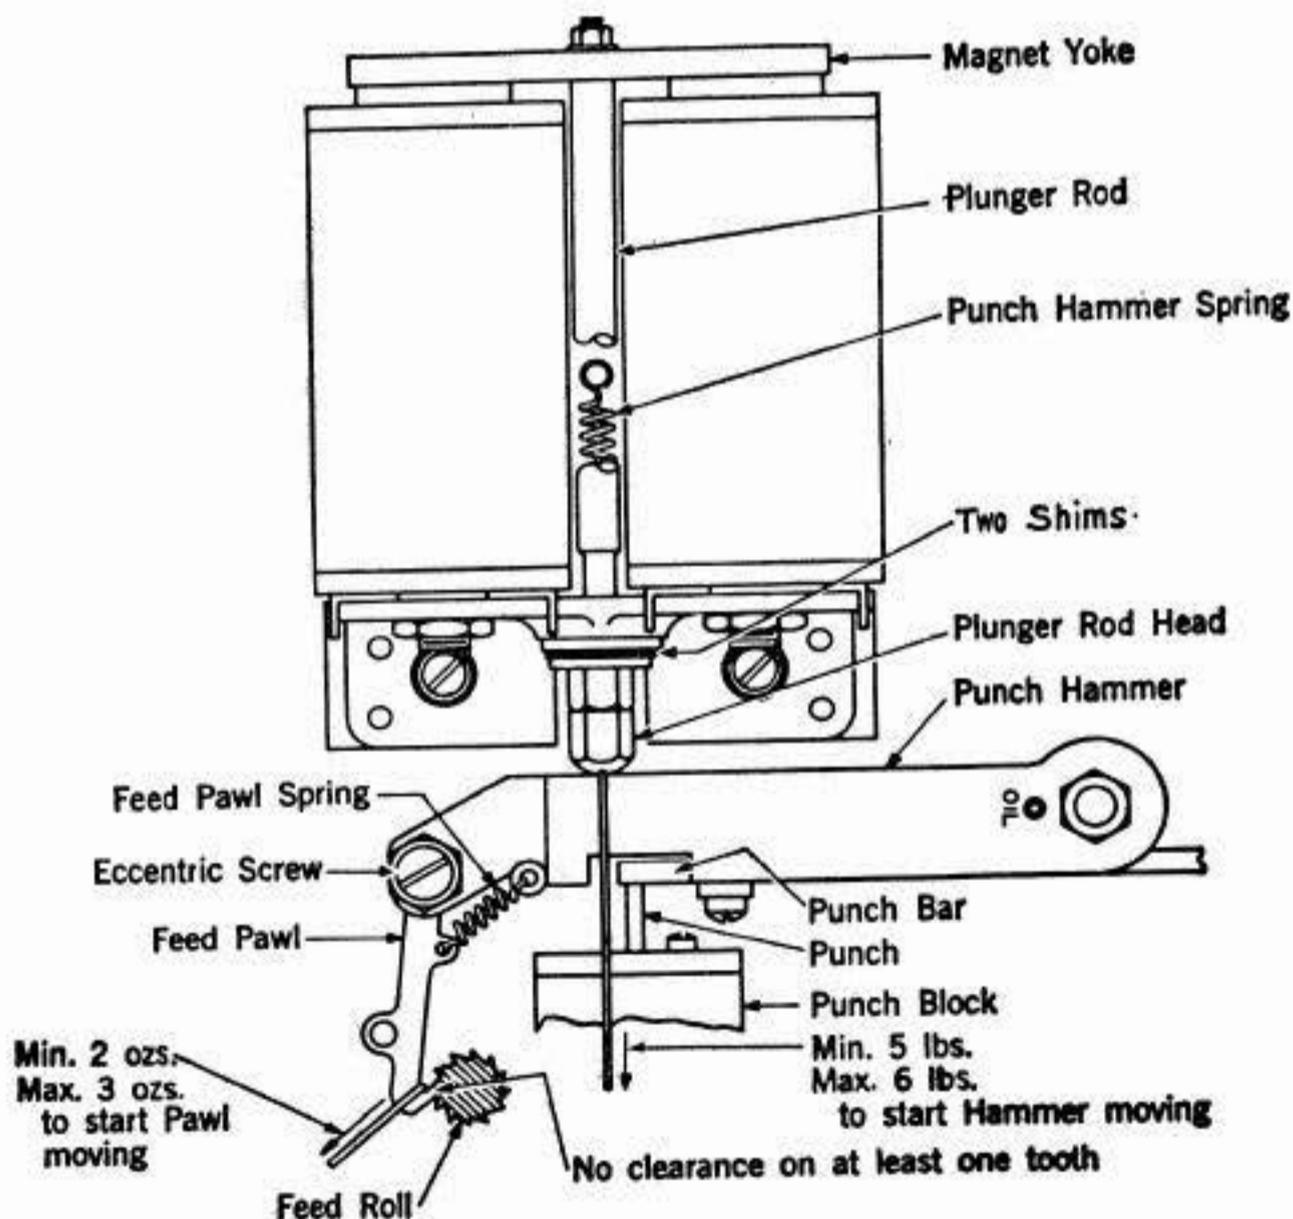

Fig. 8
(a) The feed pawl should advance feed roll one full step (1/12 of a turn) each time the punch hammer is released from the position where the punch bars are just touching the punches in the punch block. **Fig. 8**
(1) Gauge by eye.
(2) To adjust, first set feed-pawl-eccentric screw so that the pawl is in its most forward position. Then turn eccentric screw until feed pawl will just meet requirements.
3.18 Tension of **feed-pawl spring** should be Min 2 oz, Max 3 oz, when the feed pawl is resting normally against feed roll, measured at notch of pawl and in a direction parallel with spring. **Fig. 8**
(a) Apply gauge to punch hammer just above the plunger-rod head and in a line parallel with the spring. **Fig. 8**